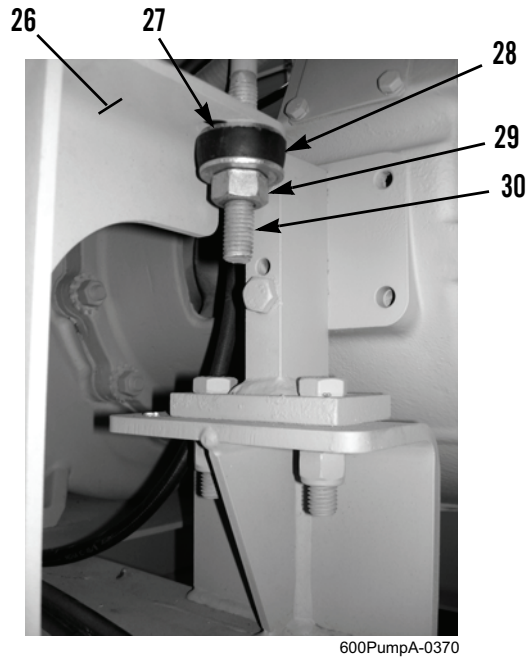

Figure 5. Discharge Manifold Front U-bolt.
11. Remove two nuts (Figure 5, Item 29), four washers (Figure 5, Item 27), two shock mounts (Figure 5, Item 28), and discharge manifold front U-bolt (Figure 5, Item 30) from bracket (Figure 5, Item 26).